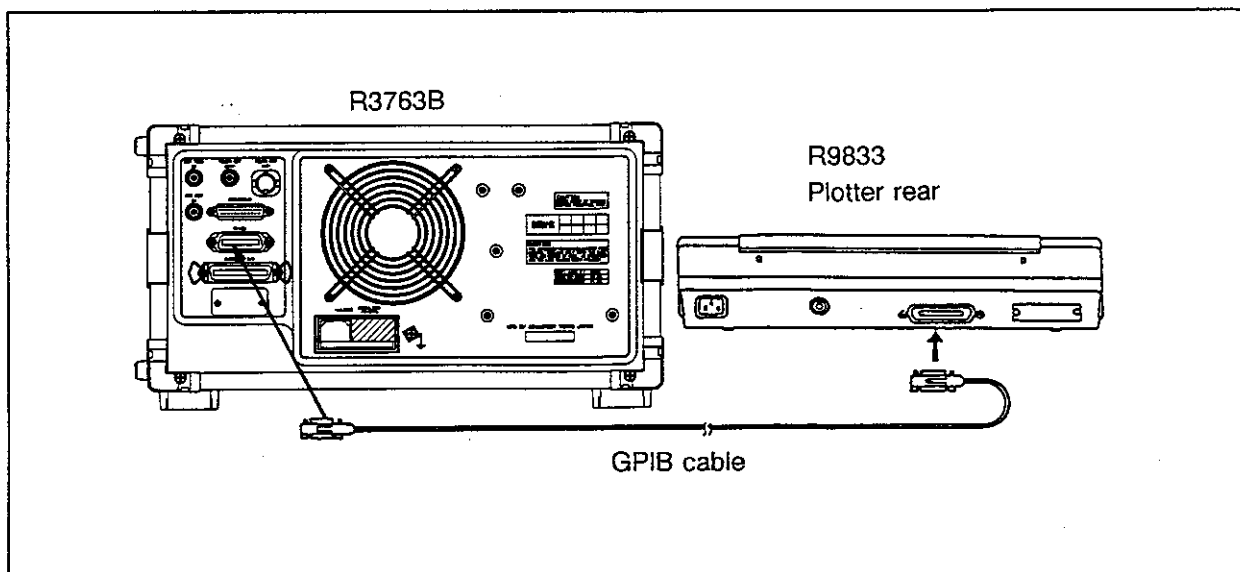

Figure 2-4 Plotter Connection Diagram
- ① Connect the R3763B and plotter with the GPIB cable. Figure 2-4 shows the connection diagram.